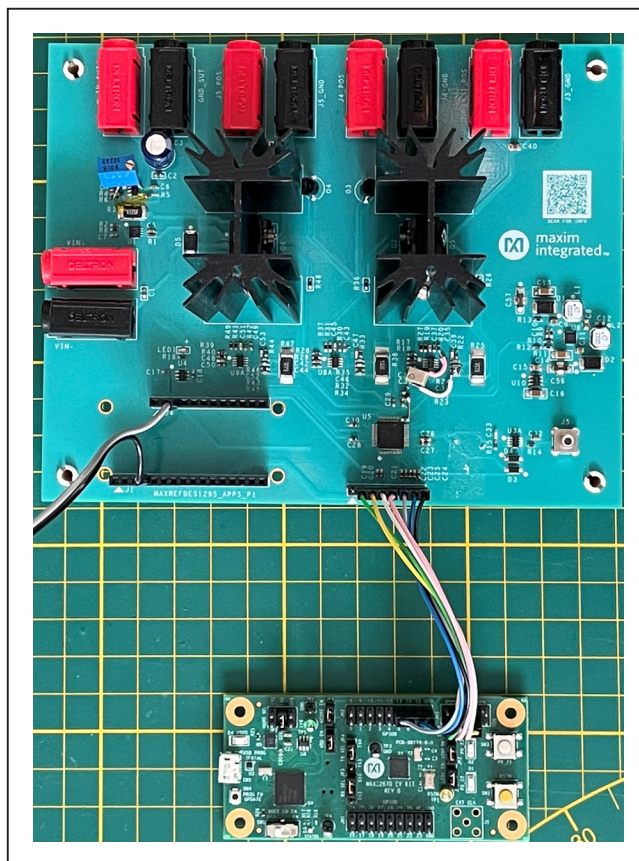

Figure 1. MAXREFDES1295 hardware.
This document describes the hardware shown in Figure 1. It provides a detailed, systematic technical guide to use the small, low-cost, portable E-load and run the accompanying PC software. The design is built and tested, and details are shown in this document.
- 1) Connect the MAX32630FTHR (FTHR) to the MAXREFDES1295, as shown in Figure 1. The MAX32630FTHR board is powered by the USB connection.